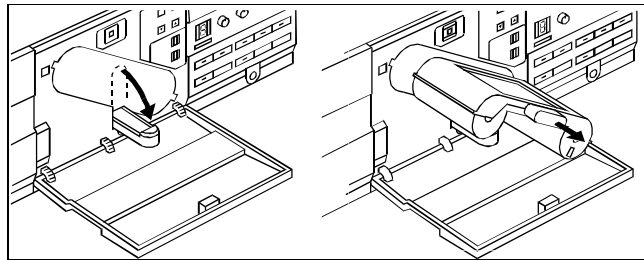

Figure 6-35. Removing the Ink Cartridge
1. Move the ink lever down and remove the ink cartridge (Figure 6-35).